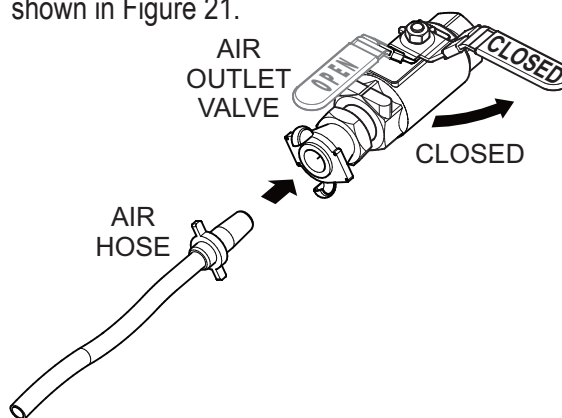

Figure 21. Air Hose Connection
1. Connect the load **air hose** to an **air outlet valve** as shown in Figure 21.
2. Make sure that both air outlet valves are placed in the **CLOSED** position (Figure 21).